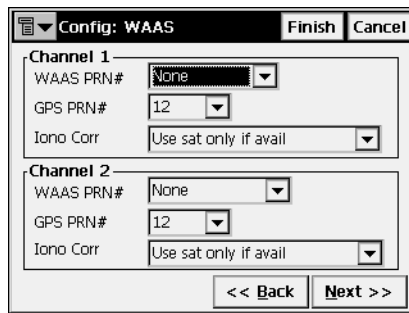

Figure 3-32. Config: WAAS
- For WAAS (Wide Area Augmentation System), select the following (Figure 3-32 on page 3-24):